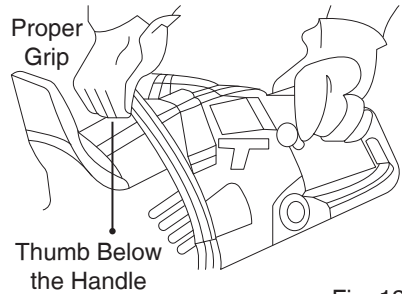

Fig. 12
- maintain a proper grip on the saw whenever the motor is running. Jthe fingers should encircle the handle and the thumb should wrap under the handle (Fig 12). This grip is lest likely to be broken by a kickback or other sudden reaction of the saw. Any grip in which the thumb and fingers are on the same side of the handle is dangerous because a slight kick of the saw can cause loss of control (Fig.13)